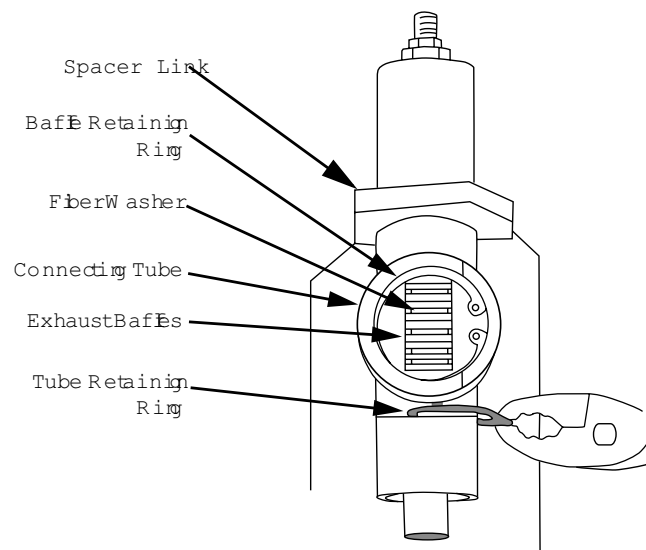

Figure 5. Contact tube removal.
2. Remove snap rings that retains exhaust baffles, and remove exhaust baffle assemblies, see Figure 5.